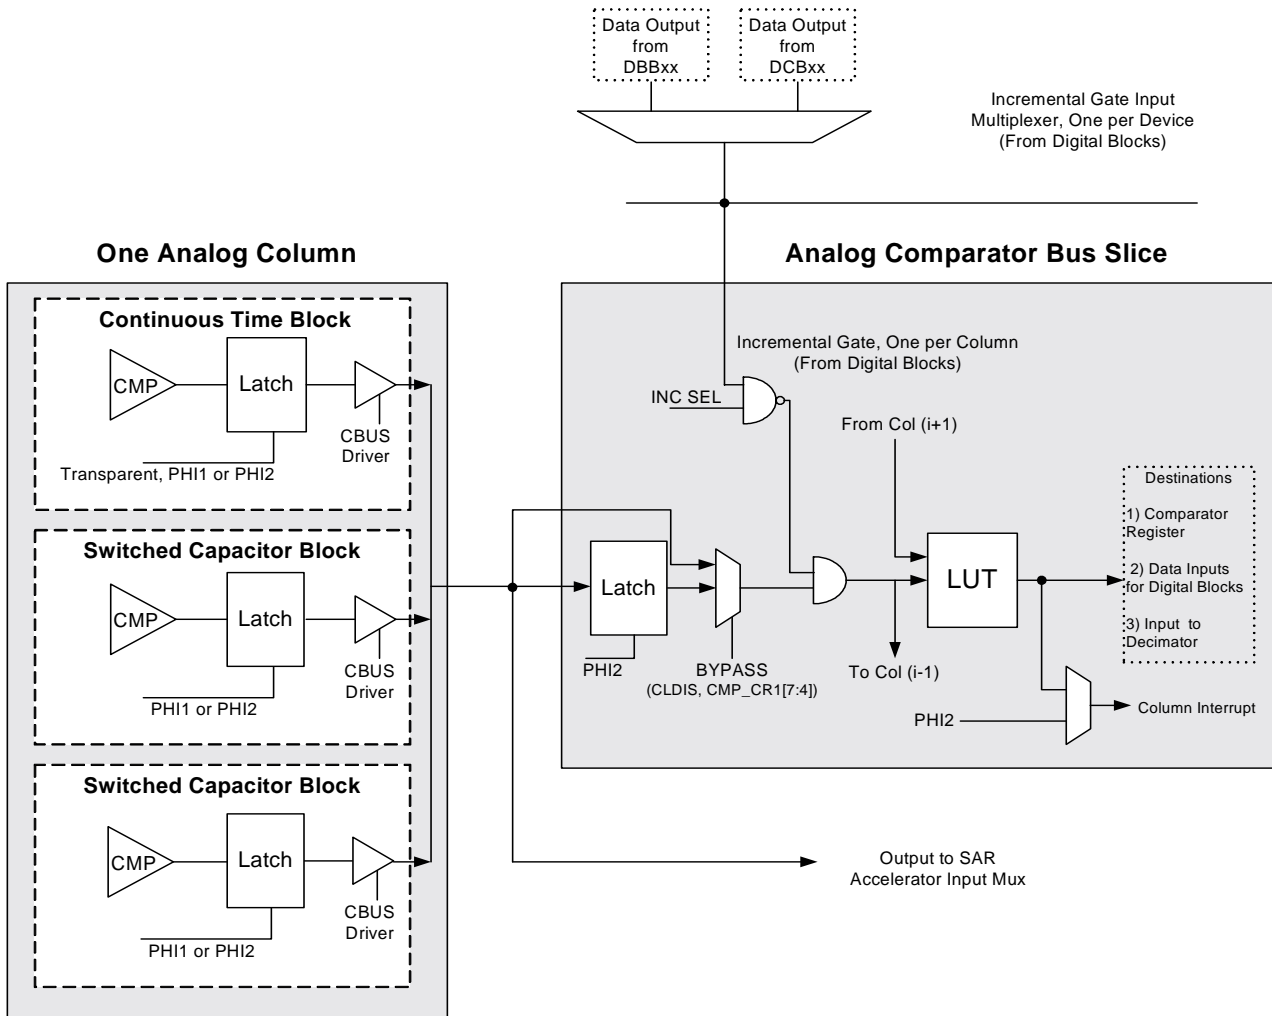

Figure 18-1. An Analog Comparator Bus Slice
Figure 18-1 displays the top-level diagram of the PSoC device's analog system.
Figure 18-1 illustrates one column of the comparator bus. In the Continuous Time (CT) analog blocks, the CPhase and CLatch bits of CT Block Control Register 2 determine whether the output signal on the comparator bus is latched inside the block, and if it is, which clock phase it is latched
As shown in Figure 18-1, the Comparator bus output is gated by a signal from the digital blocks. This feature is used to precisely control the integration period of an incremental ADC. There are two direct connect digital block output options per row for driving the gate signal: DBBx1 and DCBx2. This selection may be made with the ICCKSEL bits in registers DEC_CR0 and DEC_CR1. This function may be enabled on a column-by-column basis by setting the IGEN bits in the DEC_CR0 register.